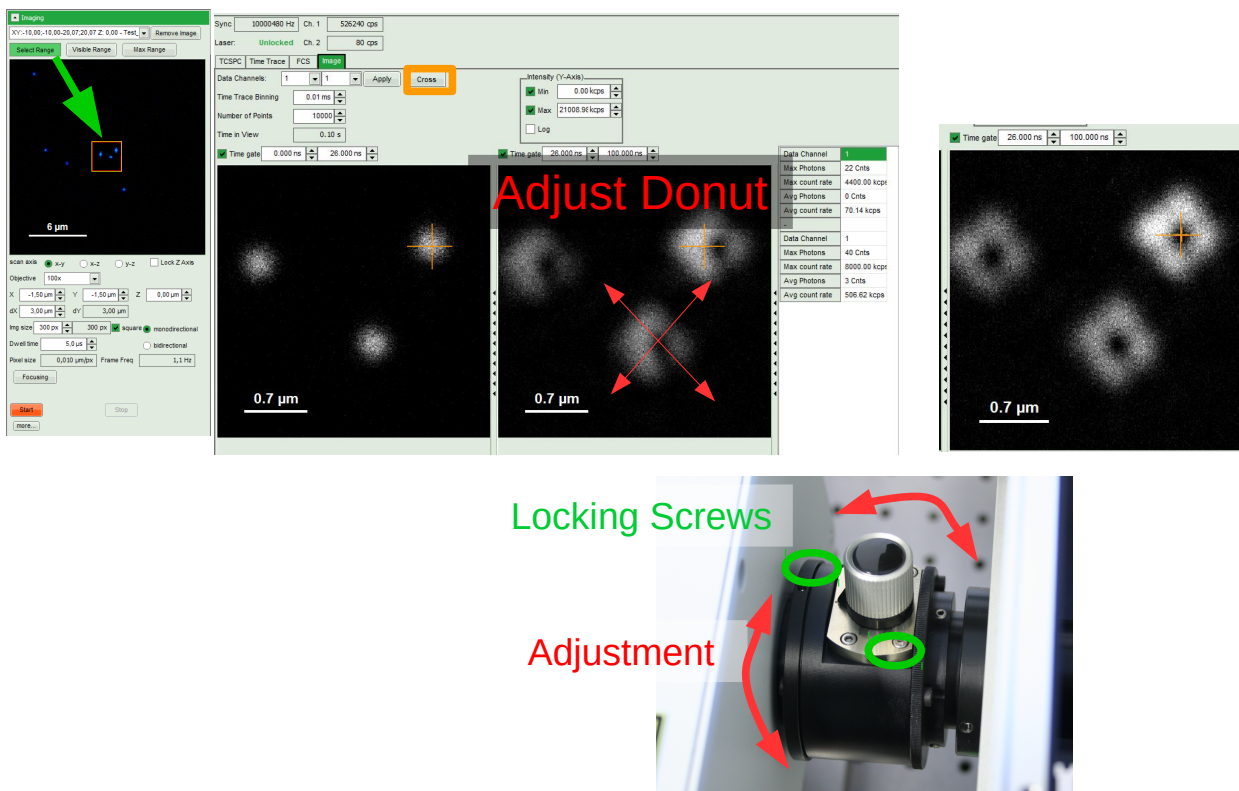

Fig. 3.8: Reduce the scan range to measure a 2-3µm area. Adjust the STED donut shape by slightly turning the adjustment knob and rotating the beam displacer.
10. Reduce the scan range ( $dX = 2\text{-}3 \mu\text{m}$ ) to only scan the gold beads located in the center of the scan field. Switch on the STED laser, reduce the intensity for both STED and 640 nm laser in order to prevent over-illumination of your detector. Please be aware that a too high STED laser power can melt the gold bead under investigation. Start a test measurement and increase the intensity of both lasers slowly during the test measurement until you can clearly see the bead on the left side and the STED donut on the right side (refer to Fig. 3.8).
- You can now optimize the STED donut shape by adjusting the beam displacer. Start by loosening the locking screws of the adjustable beam displacer outside of the MOU. Then slightly turn the adjustment knob and rotate the beam displacer until you obtain a symmetric STED donut (refer to Fig. 3.8). To ensure that the minimum of the donut approximately overlaps with the maximum of the bead, press the “cross” button and place the orange cross onto the center of your bead